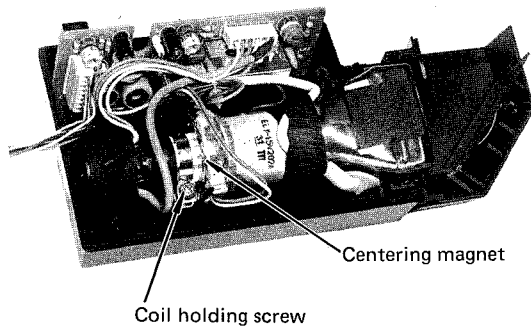
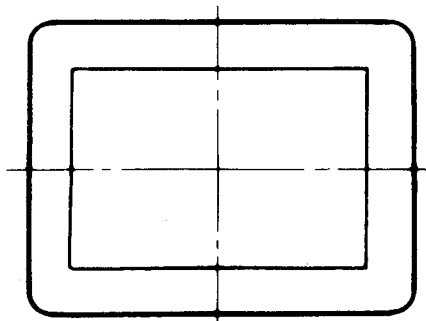

Fig. 4-3-1
Fig. 4-3-2
- Loosen the deflection coil holding screw. (Fig. 4-3-1)
- Adjust the centring magnets (See Fig. 4-3-1) until the centre of picture (raster) becomes to the centre of the viewfinder screen. (Fig. 4-3-2)